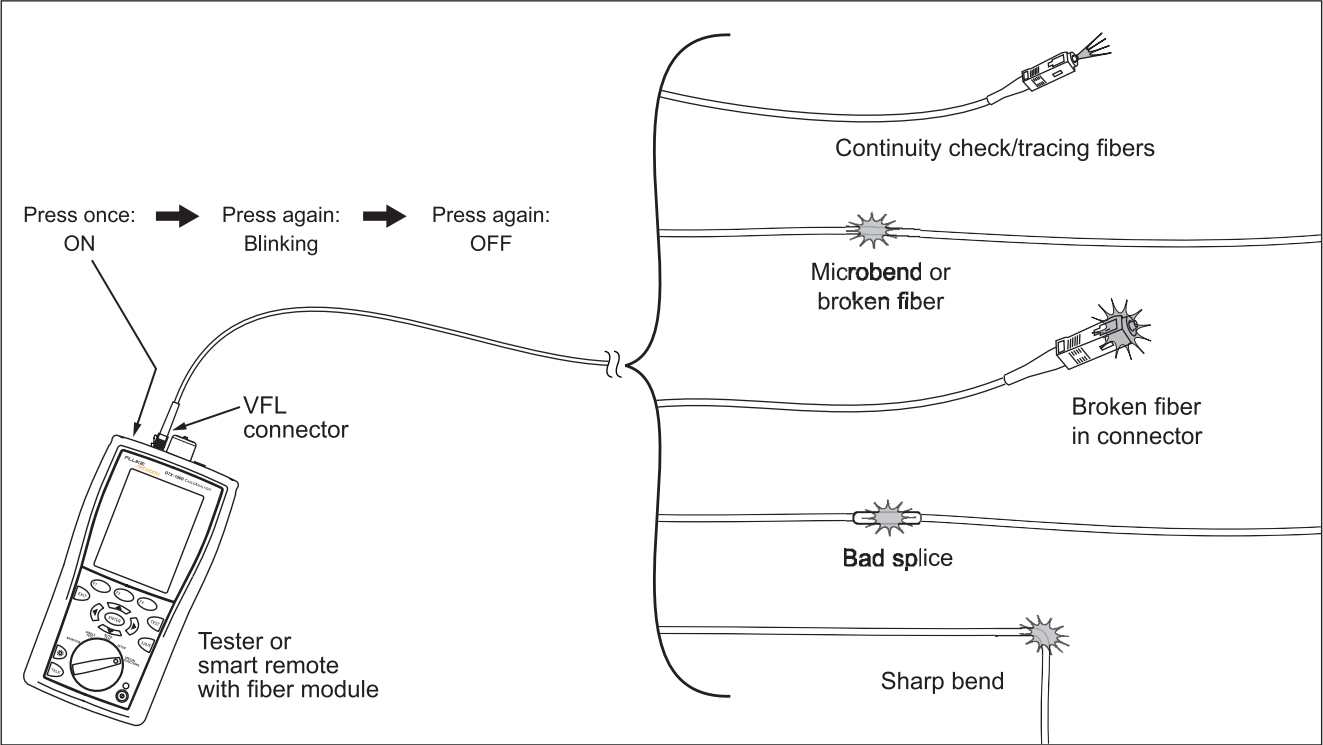

Figure 17. Using the Visual Fault Locator
- 3** Turn on the visual fault locator by pressing the button near the VFL connector, as shown in Figure 17. Press again to switch to flashing mode. Press again to turn off the locator.
- 4** Look for the red light to locate fibers or faults (Figure 17):